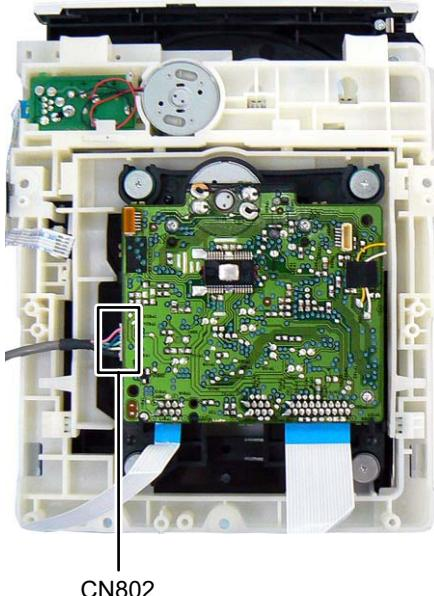

Fig.9
- (4) Disconnect the connector wire from USB jack board connected to connector CN802 of the CD servo control board. (See Fig.9)